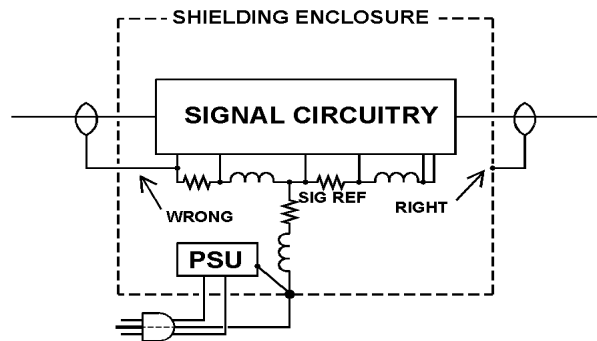

Fig 2 – The Pin 1 Problem
**The Pin 1 Problem:** The most common way that hum, buzz, and RF interference enters equipment is via a design defect first widely understood by the pro audio community thanks to the work of Neil Muncy, (ex-W3WJE). He named it "the pin 1 problem," because it is a mis-wiring of the shield of audio cables – pin 1 in the XL connector commonly used for pro audio, but it is just as much a problem in unbalanced interfaces of all types, as shown in Fig 2.
Fig 2 illustrates both right and wrong connection of the shield. The trouble-free connection on the right goes straight to the shielding enclosure, so shield current flows harmlessly out the safety ground on the power cord. Any noise (or RF) on the cable shield stays "outside the box."
**RFI and Pin 1 Problems** There are three ways to cure RFI coupled by pin 1 problems. The first two methods are obvious – modify the equipment to eliminate the pin 1 problem, or rewire the connections so that the shield goes to the proper connection point, as shown in Figs 2, 3a, and 3b. Unfortunately, the way that most equipment is built usually makes both of these methods difficult or impossible to implement.